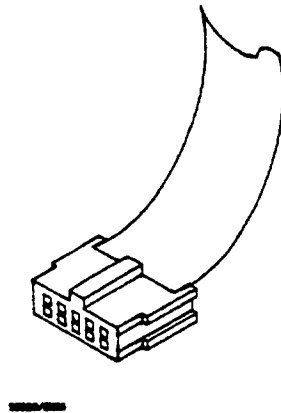

Figure 2-7. Cable End
- e. Insert correct end of appropriate intercard connecting cable into connector on bottom card of configuration. See figure 2-7.